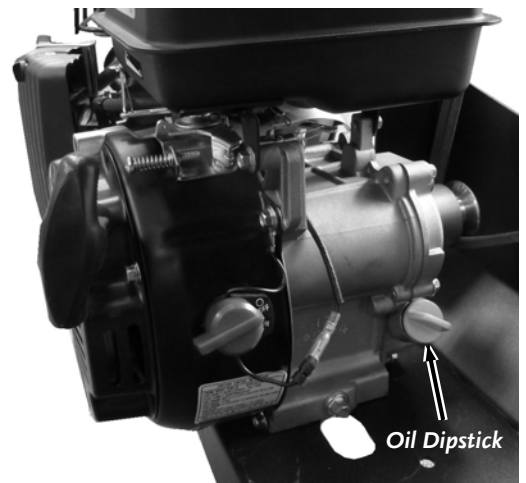

Figure 10
1. Position the machine so the Engine is level. Remove the Oil Fill/Dipstick (**Figure 10**) and clean the end of it with a rag.